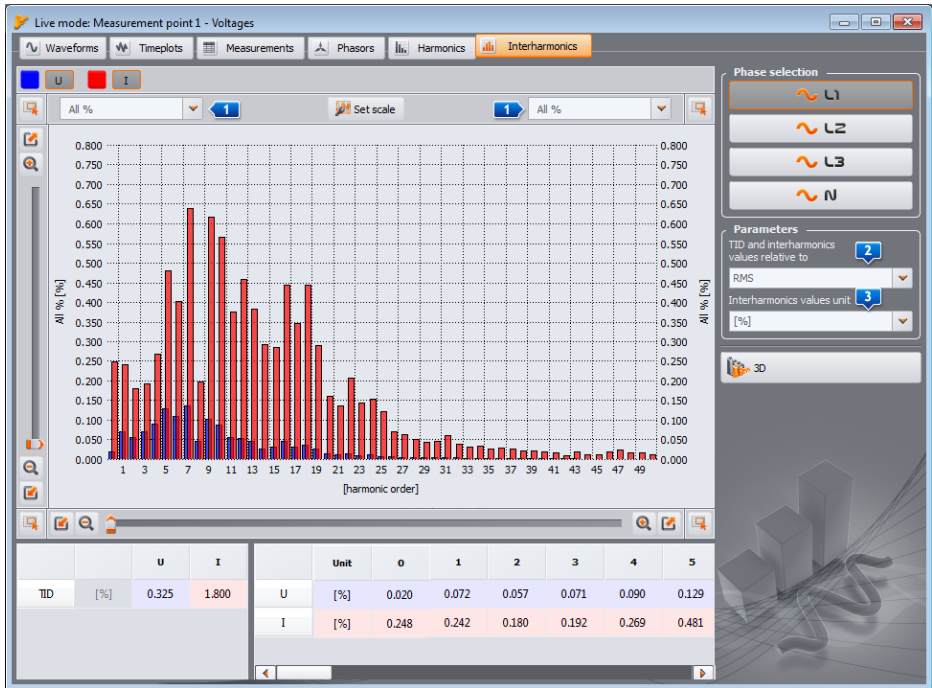

Fig. 53. Interharmonics graph.
**INTERHARMONICS** tab enables the view of interharmonics values of voltage and current and TID factors. A sample screen is shown in Fig. 53. Parameters are displayed for one phase, which is selected by buttons on the right.